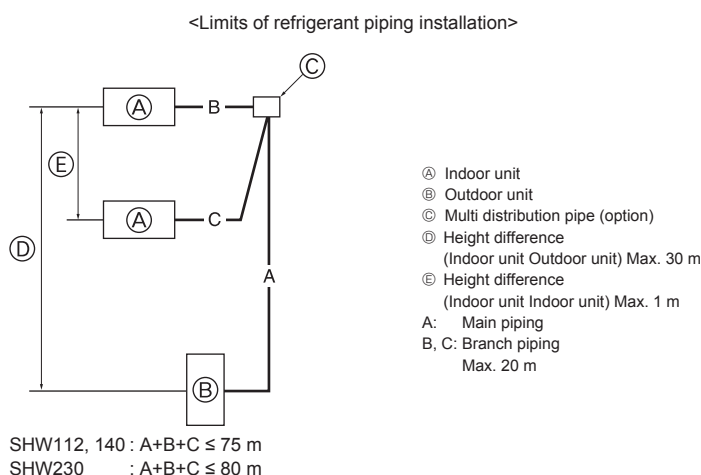

Fig. 4-10
4.8. For twin/triple/quadruple combination (Fig. 4-10) (Only for Air-Conditioners)